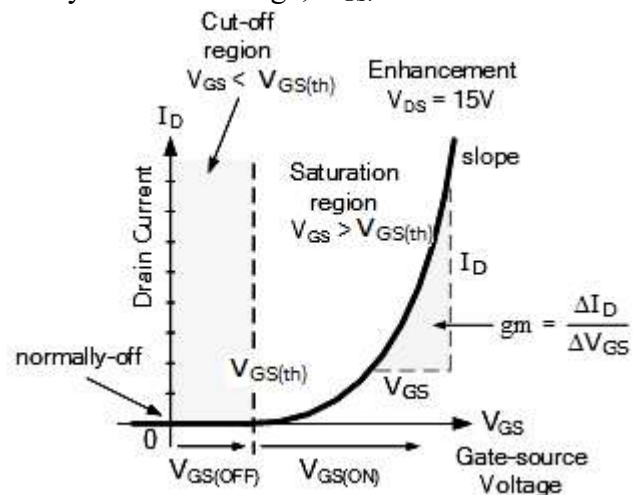

Fig.2.13 Transfer characteristic of E - MOSFET
- i) When $V_{GS} < V_{GS(th)}$, then $I_D = 0$. This is because under this state, the channel will not be connecting between the drain and the source terminals. This is called as *cut-off region*. (MOSFET off state). The transfer curves of MOSFET is shown in the fig.2.13.